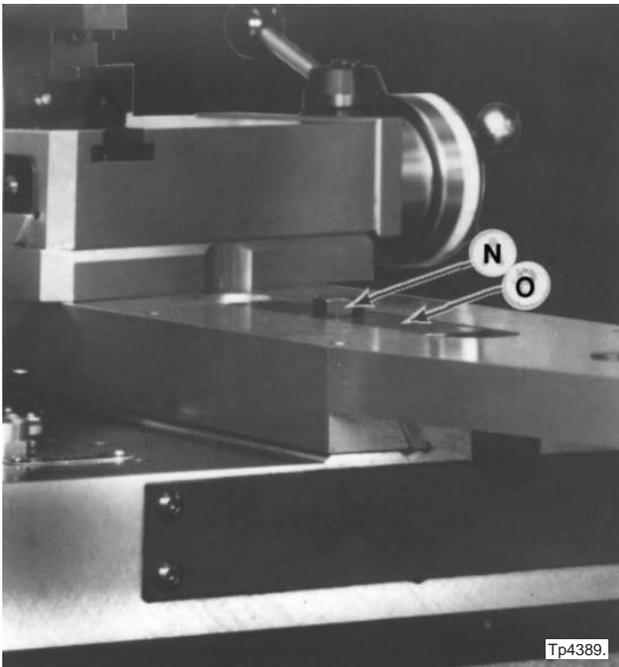

Figure 2.6 - Cover for Cross Slide Feed Screw Nut
1. Remove screw "N", Figure 2.6 .
6. Replace cover "O", Figure 2.6, in the center of the slot with the long end of the cover toward the rear of the machine.